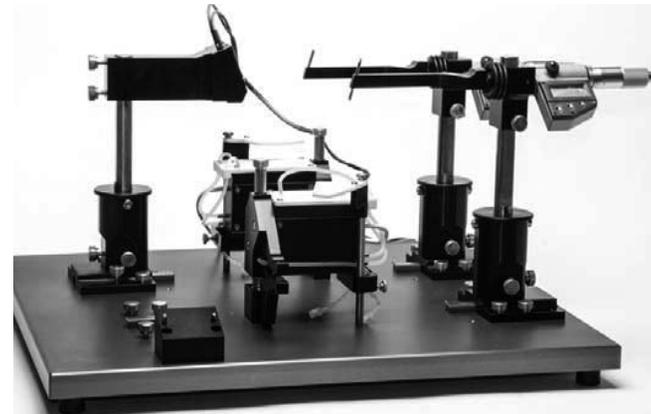

Fig. 27—Position the force transducer stand on the left side of the base plate.
14. Position the assembled force transducer stands (Fig. 27) on the left side of the base plate so that the mounting slots on the stand align with the holes in the base plate. The force transducer mount must face the cuvette. Insert four thumbscrews through the mounting slots of the stand and into the four holes on the left side of the base plate. Slide the force transducer mount into the position you prefer and finger tighten the screws.